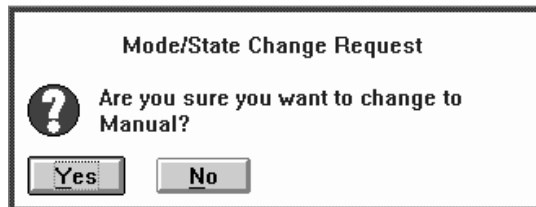

Figure 215. Mode/State Change Request Window
4. Select the **Yes** push button in the Mode/State Change Request window (Figure 215) to start the change to Manual mode.